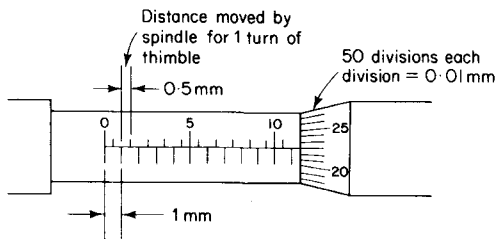

Fig. 4.4 The scales of a metric micrometer
**The metric micrometer.** The screw thread which moves the spindle has a pitch of 0.5 mm. That is, one turn of the thimble causes the spindle to move a distance of 0.5 mm. Fig. 4.4 shows how the metric micrometer scales are marked.